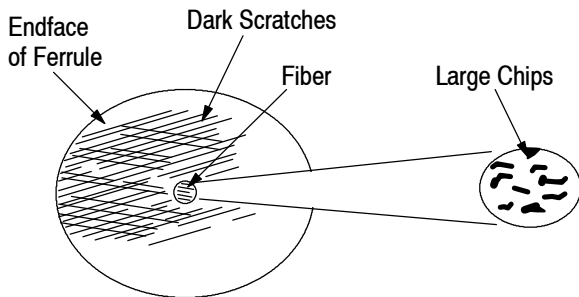

Figure 11
1. Using the fiber optic inspection microscope kit, inspect the endface of the ferrule and fiber according to the following criteria (refer to Figure 11):